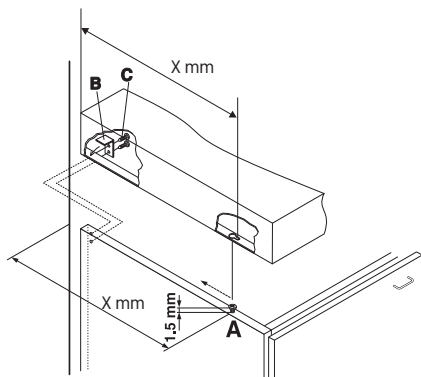

Fig. 4
casing of the hob does not protrude further than the edge of the appliance. Even when the hob is resting on the worktop, it will suffice to leave space for the gas supply tube and electricity supply cable. To fit this type of hob, follow the instructions below (fig. 4):
- Fix the two screws provided "A" at a distance from the back panel as shown in figure 4, leaving the heads of the screws sticking out of the wood by 1.5 mm.